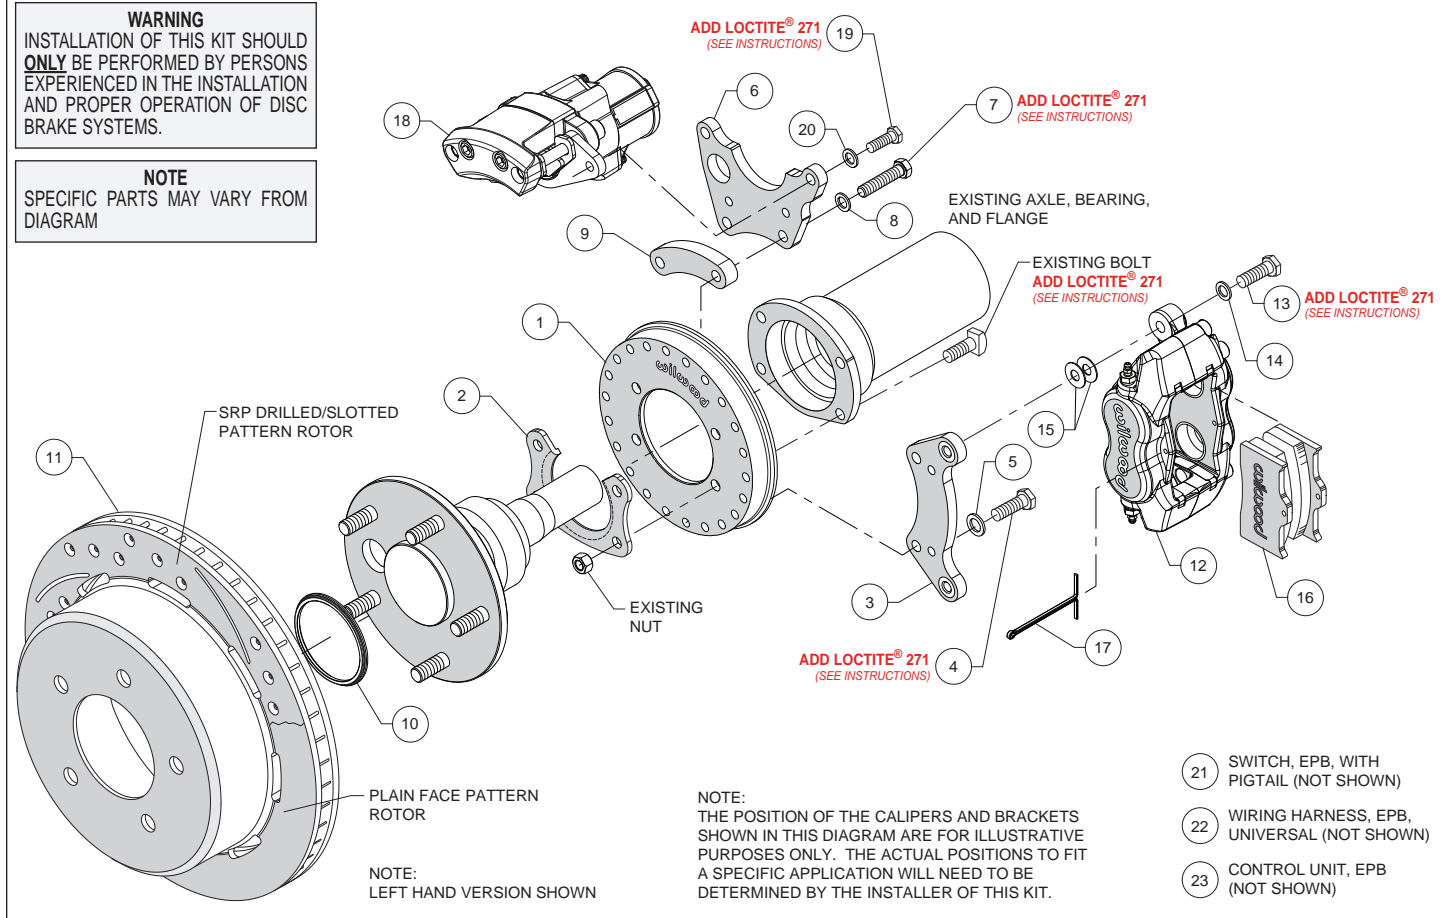
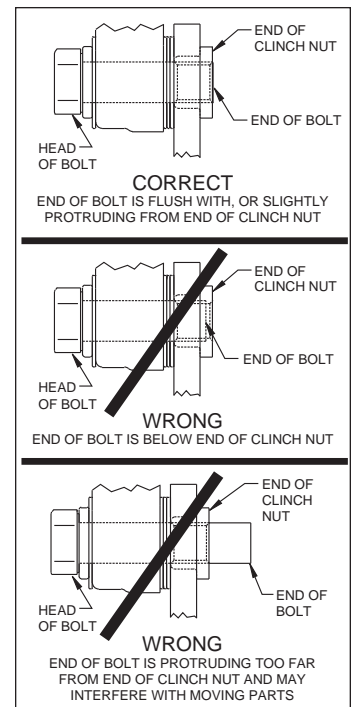

Figure 1. Typical Installation Configuration
Figure 5. Clinch Nut Engagement Diagram
(numbers in parenthesis refer to the parts list, and Figure 1 on the preceding pages):
CAUTION: All mounting bolts must fully engage clinch nuts. Be sure to check that all bolts are either flush or protruding through flanged side of clinch nut after shimming, Figure 5.
- Orient the backing plate (1) as shown in Figure 1 and Photo 1, and slide it onto the axle housing flange. Ensure the backing plate fits flush against the axle housing flange. Reinstall the axle into the axle housing.
- Install the bearing retainer (2) with the opening pointing upward and the lip facing inward (toward the bearing), as shown in Figures 1 and 4, and Photo 2. Secure retainer and backing plate to the axle housing flange using the Original Equipment Manufacturer (OEM) bolts and nuts, Figure 1 and Photo 3. Apply red *Loctite*® 271 to the OEM bolt threads and torque to OEM specifications.
- Start by determining the best location for the service caliper (12). This caliper is usually mounted in the 3:00 or 9:00 o'clock position, but may be rotated up or down approximately 45 degrees and still allow for proper bleeding, Photo 4. Orient the service caliper bracket (3) as shown in Figure 1 and Photo 5, and install to the backing plate (1) in the desired location using bolts (4) and washers (5). Temporarily tighten bolts. Next, mount the service caliper to the bracket using bolts (13) and washers (14). Temporarily tighten bolts. Check that the caliper (including inlet fitting and hose) has sufficient clearance to all surrounding components through the full suspension travel. Relocate the caliper/bracket on the backing plate as needed to ensure proper clearance is achieved.
- Determine the best location for the EPB caliper (18). **NOTE:** *The EPB caliper motor extends farther inboard than the service caliper and therefore needs additional consideration when determining a mounting location with sufficient clearance.* In the example application shown in Photo 6, the EPB caliper has sufficient inboard clearance to the leaf spring. However, if the EPB caliper were mounted closer to the 12:00 o'clock position, the inner body of the vehicle would hit the caliper during full compression of the suspension.
•Orient the EPB caliper bracket (6) as shown in Figure 1 and Photo 7, and install to the backing plate (1) in the desired location using bolts (7), washers (8), and spacer (9). Temporarily tighten bolts. **NOTE:** The EPB bracket is reversible. In one direction the bracket will position the EPB caliper closer to the service caliper, and vice versa if reversing the bracket. Next, mount the EPB caliper (18) to the bracket using bolts (19) and washers (20). Temporarily tighten bolts. **NOTE:** EPB calipers are Left and Right handed, however they can be used on either side of the vehicle to best suit your specific application. Check that the EPB caliper (including wiring harness connector) has sufficient clearance to all surrounding components through the full suspension travel. Relocate the EPB caliper/bracket on the backing plate as needed to ensure proper clearance is achieved.
•Once the caliper positions have been determined, remove both the service (12) and EPB (18) calipers, leaving both brackets in place on the backing plate. For both brackets, remove the bolts one at a time, apply red *Loctite*® 271 to the threads, and torque to 35 ft-lb.
•Slide the rotor registration adapter (10) onto the register on the axle flange with the smaller O.D. facing toward the rotor/hat (11), Photo 8. Align the hole pattern in the rotor/hat with the stud pattern on the axle flange and slide into place, Figure 1. **NOTE:** The rotor/hat must fit flush against the axle flange or excessive rotor run out may result. Install three lug nuts (finger tight) to keep the rotor/hat assembly in place while continuing with the installation. **NOTE:** Some OEM and after market axles come with stud sizes larger than 0.50" diameter. Verify stud size and have a qualified machine shop drill the bolt circle of the hat/rotor to the correct stud size, if necessary.
•**NOTE:** Please reference the caution statement at the beginning of the assembly instructions. Remount the service caliper (12) onto the caliper mounting bracket (3) using bolts (13) and washers (14), as shown in Figure 1. Initially place two .035" thick shims (15) on each bolt between the caliper and the bracket, Photo 9. Temporarily tighten the mounting bolts and view the rotor (11) through the top opening of the caliper. The rotor should be centered in the caliper, Photo 10. If not, adjust by adding or subtracting shims (15) between the bracket (3) and the caliper (12). Always use the same amount of shims on each of the two mounting bolts. **NOTE:** The end of each bolt must be flush with or slightly protruding from the head of the clinch nut, as shown in Figure 5. If necessary place spare shims (15) between washer (14) and caliper (12) mounting ear to achieve the proper clinch nut engagement. Once the caliper alignment and clinch nut engagement are correct, remove the bolts (13) one at a time, apply red *Loctite*® 271 to bolt threads, and torque to 40 ft-lb.
- Mount the EPB caliper (18) onto the caliper mounting bracket (6) using bolts (19) and washers (20), Figure 1. Apply red *Loctite*® 271 to bolt threads, and torque to 30 ft-lb.
- NOTE:** *The service caliper (12) in this brake kit utilizes a 1/8-27 NPT pipe thread inlet. OEM rubber brake hoses generally cannot be adapted to Wilwood calipers. The preferred method is to use steel adapter fittings at the caliper, either straight, 45 or 90 degree and enough steel braided line to allow for full suspension travel. Carefully route hoses to prevent contact with moving suspension, brake or wheel components. NOTE: Wilwood hose kits are designed for use in many different vehicle applications and it is the installer's responsibility to properly route and ensure adequate clearance and retention for brake hose components. Wilwood offers universal brake flex line hose kits, domestic (3/8-24 IF) chassis fittings, order:*